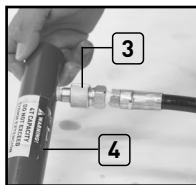

Fig.2
2. Align and connect the hydraulic hose w/coupling from the pump assembly (1) to the hydraulic ram then fasten the coupling clockwise to tighten securely (Fig 2). Do NOT overtighten.